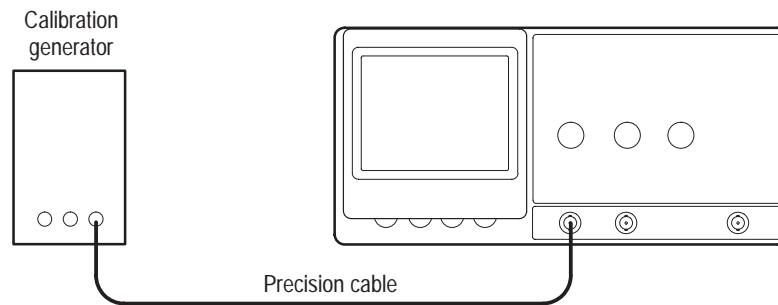

Figure 2: Gain and voltage check setup
1. Use the 50 Ω precision coaxial cable to connect the standard amplitude output of the DC calibration generator to the TAS 200 series oscilloscope CH 1 (CH 2) input. See Figure 2 below.